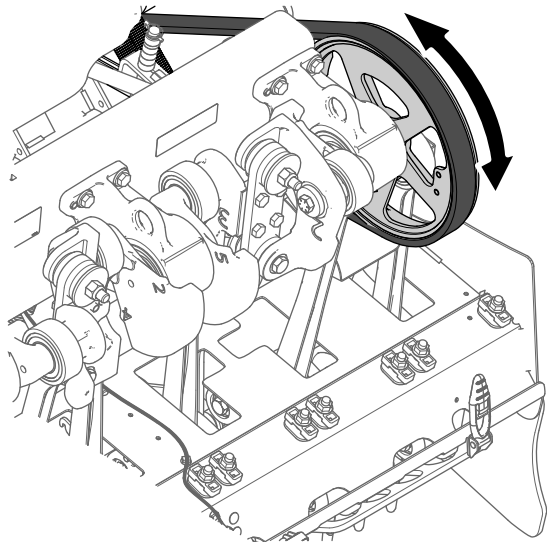
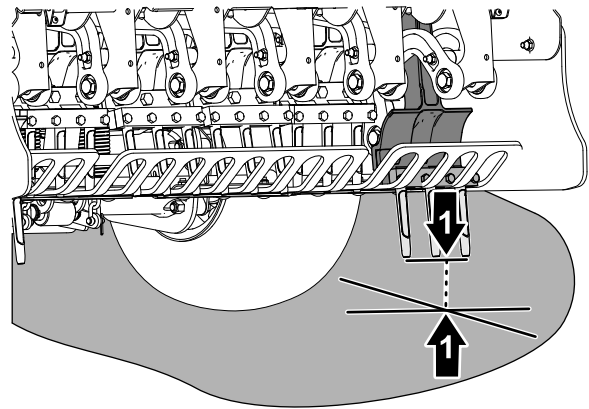

Figure 63
Figure 64
4. Rotate coring-head pulley (Figure 63) until the outermost tines are aligned closest to the ground (Figure 64).